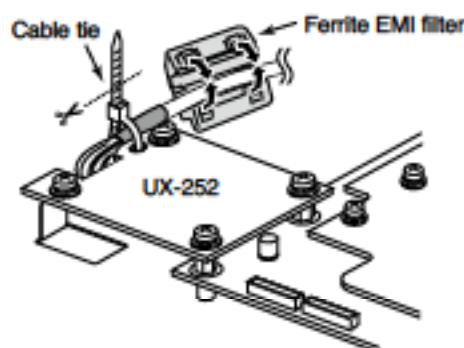

Fig. 5
7. Secure the cable to the UX-252 with a cable tie. (Fig. 5)
8. Clamp the cable with the ferrite EMI filter attached near the UX-252. (Fig. 5)
- ① Be sure to clamp it tightly.
- ① Make sure the gasket is properly seated.